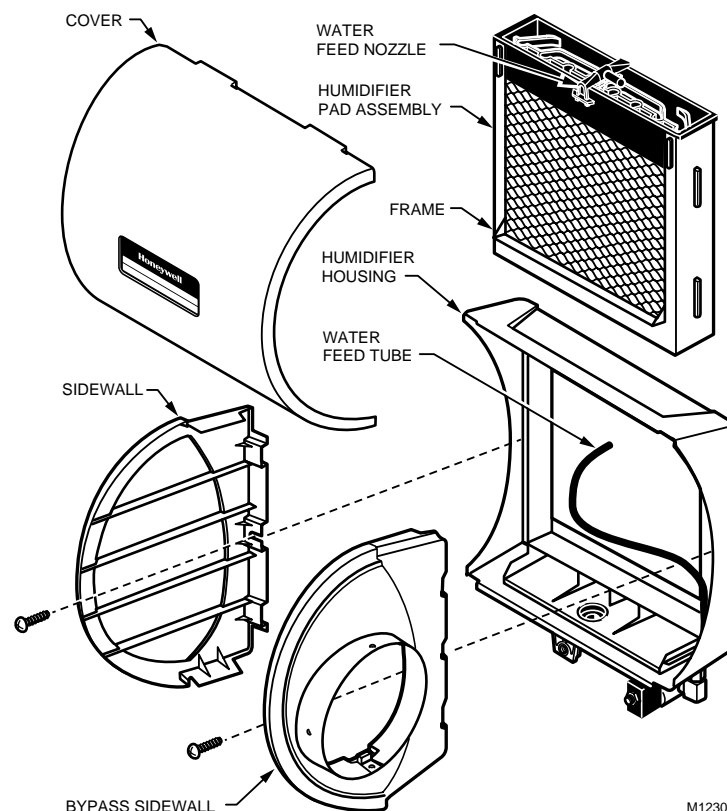

Fig. 2. Humidifier components.
- Disassemble the humidifier; remove the cover and take out the humidifier pad assembly. See Fig. 2.